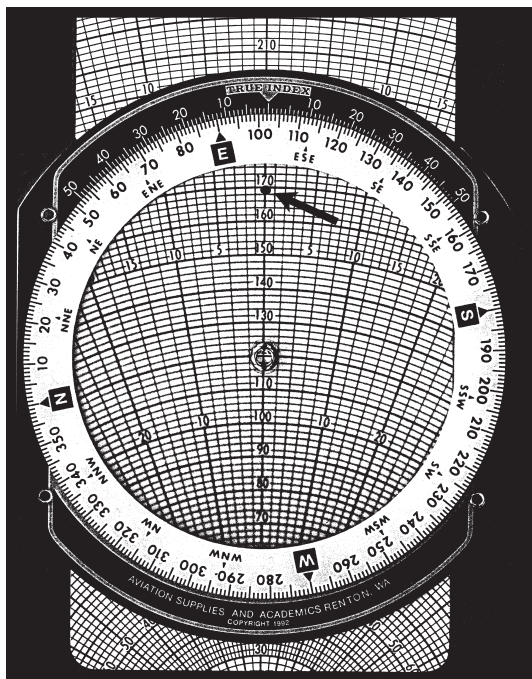

Figure 25
6. Read the true wind direction under the true index. You should have a wind direction of 104° and a wind speed of 50 knots (see Figure 25 on Page 35).